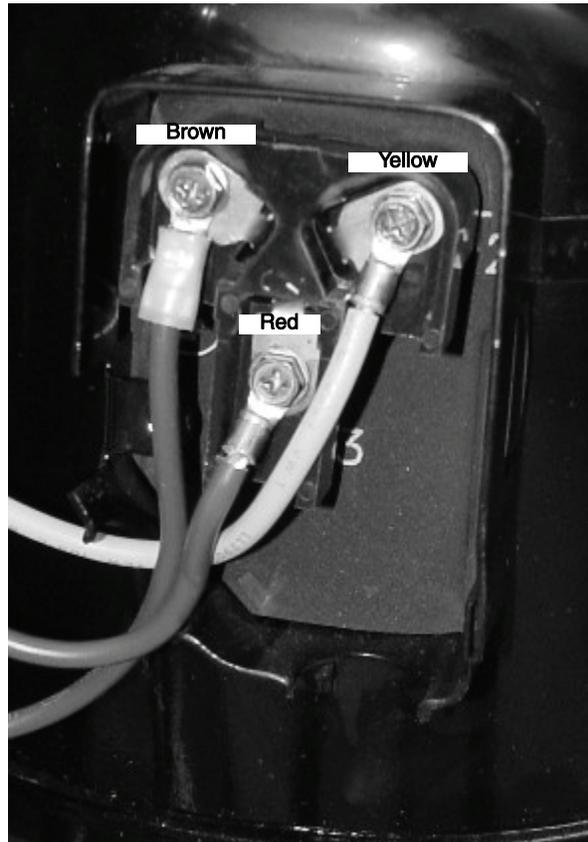

Figure 44.
53. Connect the compressor (FIGURE 44) and replace the junction box cover.